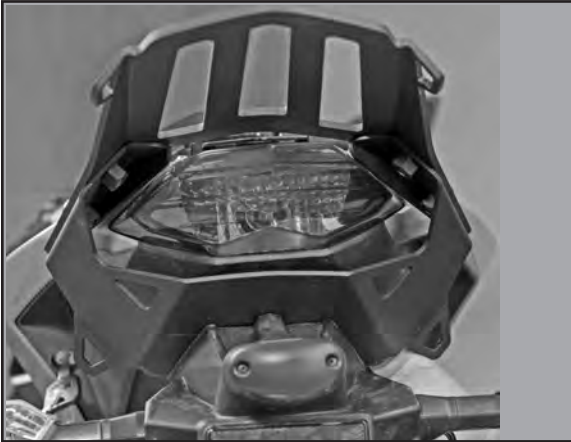

Figure 3
1. Place Rack Assembly (1 and 2) on motorcycle. **Figures 3, 4 and 5**
a. The Slot in Bracket (2) is a Wire Guide. **DO NOT BIND WIRES.**
b. Align positioning nub on tail light with hole in Bracket (2).